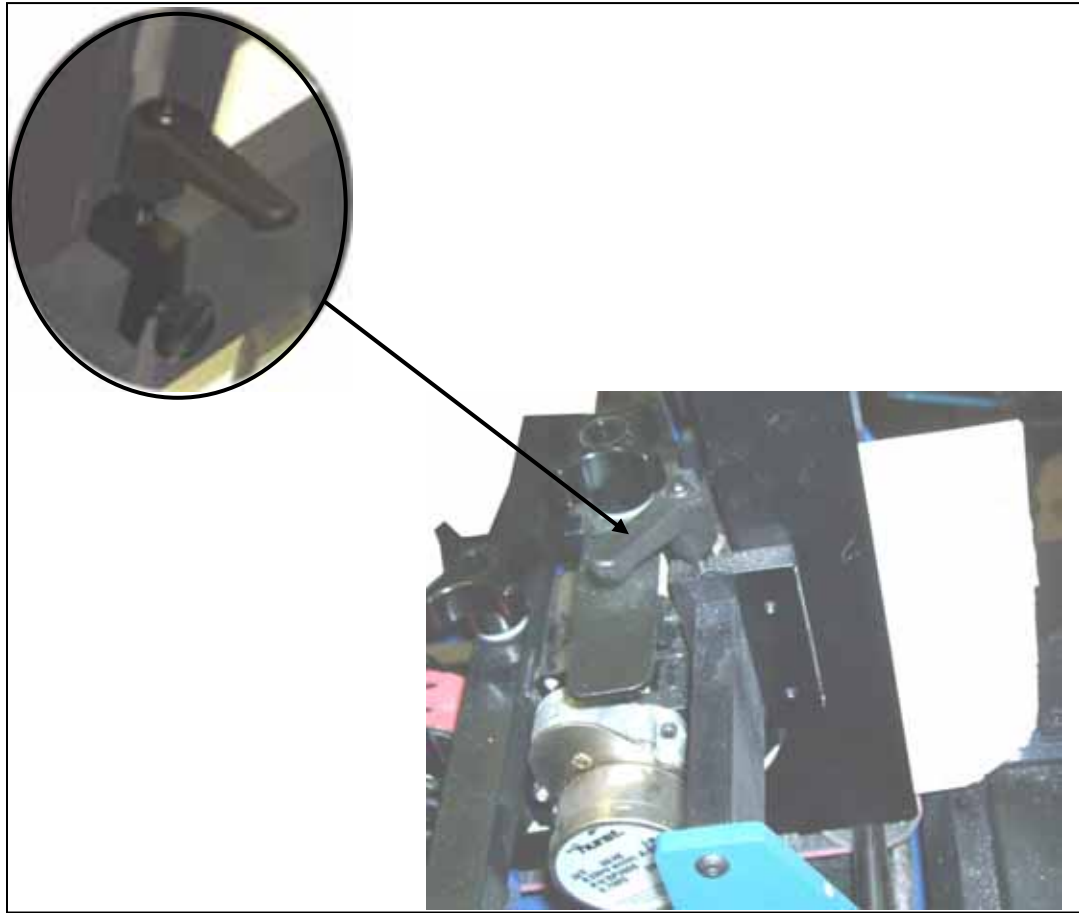

Figure III-5
1. Loosen the ratchet handles and the thumb lock knob, found on each of the material side guides (The ratchet handle at the top of the clamp, aligns the side guide vertically, the thumb lock knob at the back of the clamp, aligns the side guide horizontally. See figure III-5.
2. Mark the center of the card and place the marked piece on the feeder friction belt, see figure III-5.